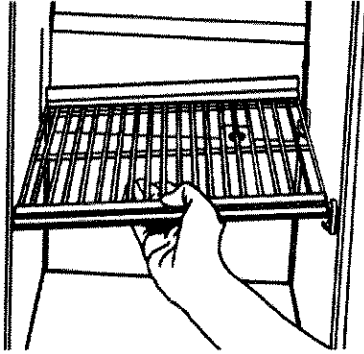

Figure 29
- d. Lower shelf onto snap-lock support tabs and press down until shelf is secure. See Figure 29.